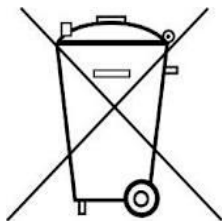
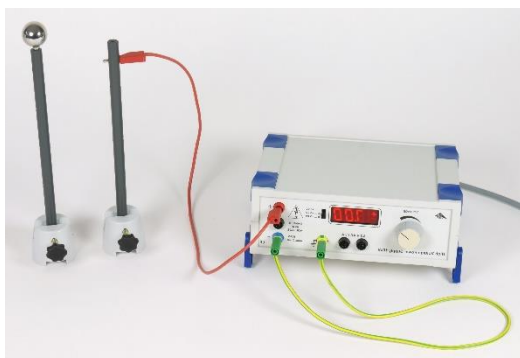

Fig. 2 Changing the fuse
Fig. 3 Set-up for charging up the sphere
- Pry out the fuse holder on the rear of the power supply using a flat-head screwdriver (see Fig. 2).
The experiment set-up for this experiment comprises 2 parts. Fig. 2 is the set-up for electrically charging up a sphere, Fig. 3 shows how the electrometer is connected to measure the charge.